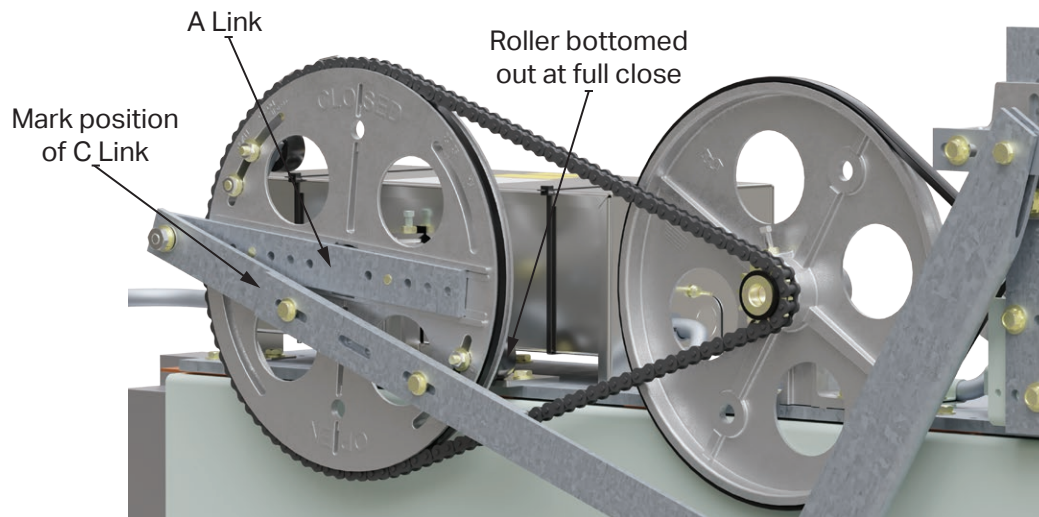

Figure 10: Mark C Link
8. Adjust the C-link so the clutch springs will fully compress when the operator drive wheel bumper is bottomed out. Mark C-link position. (See **Figure 10**)
10. Fully close the car door and adjust the A-link so the clutch springs will fully compress when the operator drive wheel bumper is bottomed out. (See **Figure 10**)